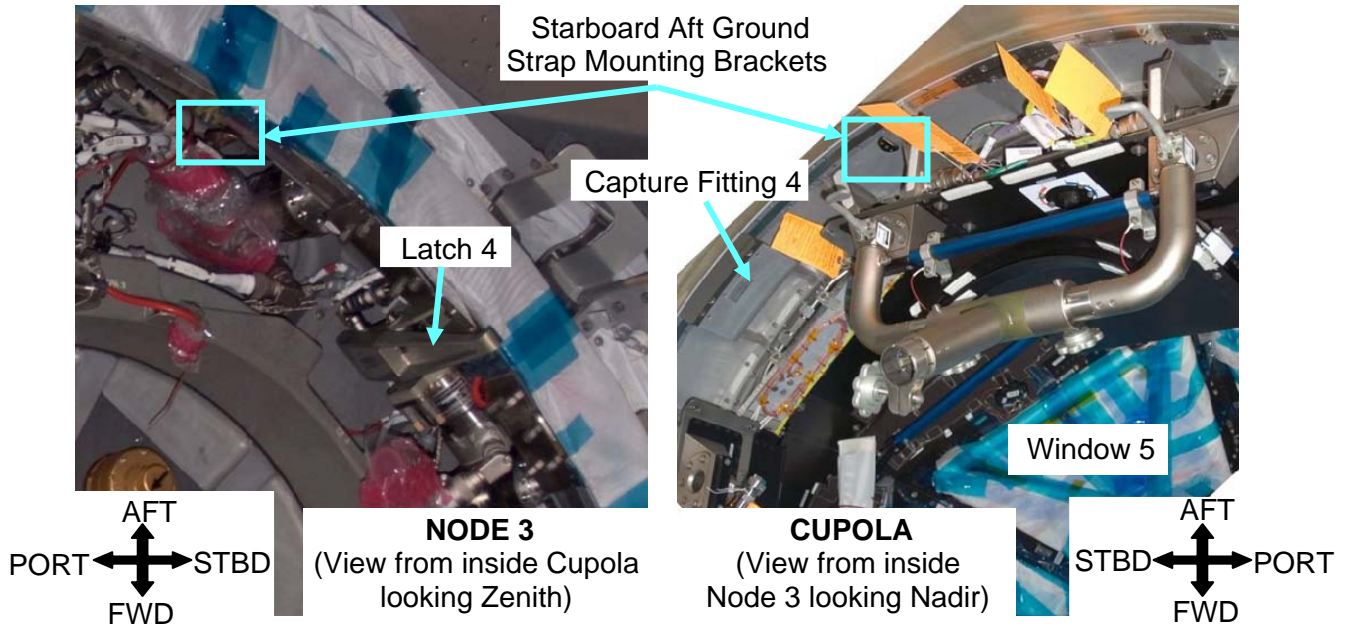

Figure 10.- Starboard Aft Ground Strap Mounting Brackets (Ground Photos).
7.4 Install Ground Straps (two) from ACBM bracket to PCBM bracket, bending as necessary. Refer to Figures 10, 11, 12.